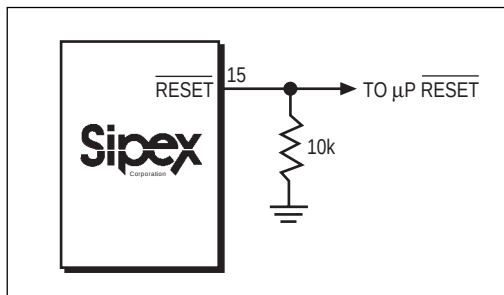

Figure 4. Adding an external pull-down resistor ensures $\overline{\text{RESET}}$ is valid with V_{CC} down to GND.
1.6mA at $V_{OUT} - 0.5\text{V}$. When no backup battery is used, $\overline{\text{RESET}}$ output is valid down to $V_{CC} = 1\text{V}$, and an external 10k Ω pull-down resistor on RESET ensures that RESET will be valid with V_{CC} down to GND as shown on Figure 4. As V_{CC} goes below 1V, the gate drive to the $\overline{\text{RESET}}$ output switch reduces accordingly, increasing the $r_{DS(ON)}$ and the saturation voltage. The 10k Ω pull-down resistor ensures the parallel combination of switch and external resistor is 10k Ω and the output saturation voltage is below 0.4V, while sinking 40 μA . When using a 10k Ω external pull-down resistor, the high state for the $\overline{\text{RESET}}$ output with $V_{CC} = 4.75\text{V}$ is 4.5V typical. For battery voltages greater than or equal to 2V, RESET remains valid for V_{CC} between 0V and 5.5V. RESET will be asserted during the following conditions: